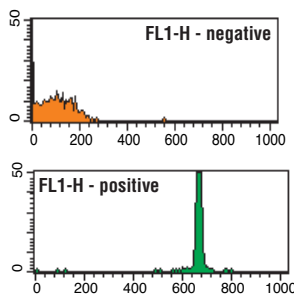

Figure 5
- Using the FL1 and/or FL2 channels (depending on the reporter antibodies used) determine whether or not any bead populations tested "positive" for the analyte. (Figure 5) *Note:* A positive bead will produce a fluorescence peak in the FL1 or FL2 channel. The minimum fluorescence intensity needed to be considered "positive" is based on the Relative Channel Value (RCV) of the peak. It is up to the investigator to determine what threshold RCV value will constitute a "positive" result.